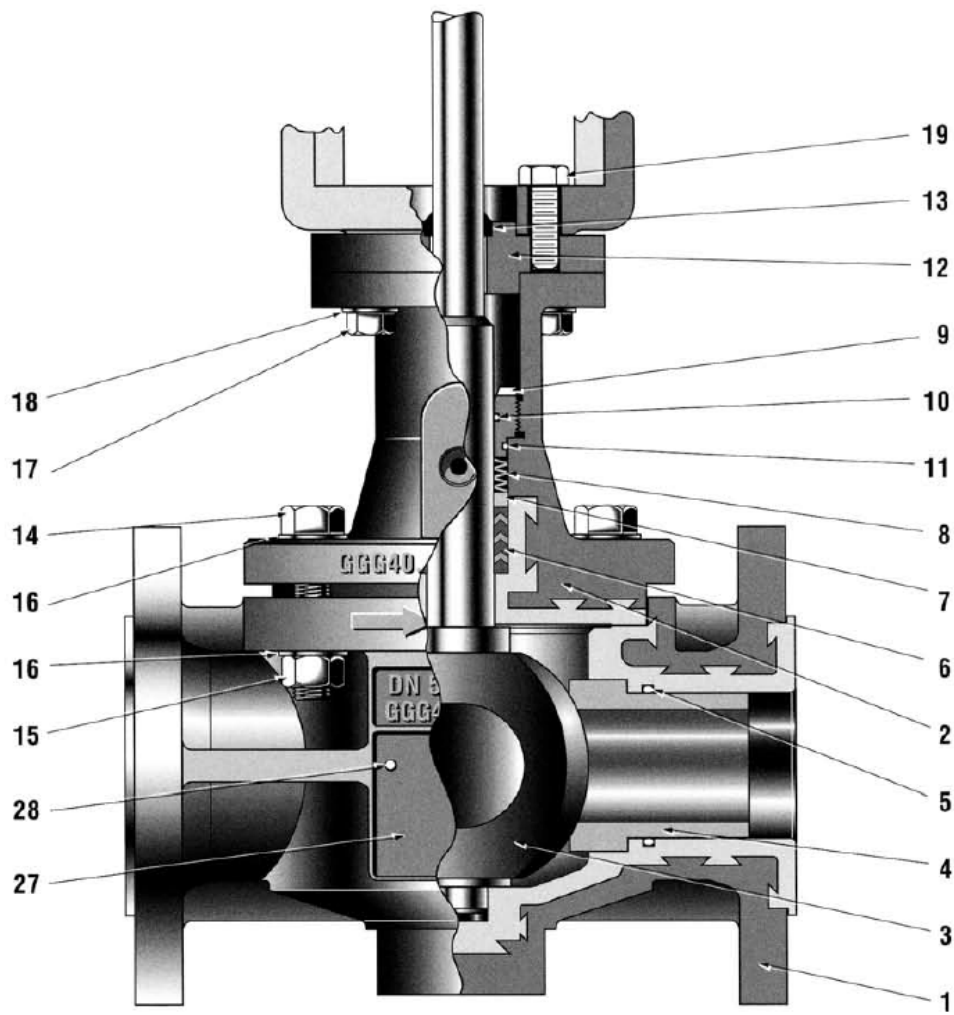

Figure 1
1. Remove the rear and front covers (118 & 121) of the actuator by releasing the screws (119). If necessary screw out the handwheel (141) after removing the Truarc ring (138) and washer (139).
3. Remove the indicator (154), clevis pin clip (122) and clevis pin (124), release the lever cap screw (137).
4. Depressurize the spring barrel. If the valve is not supplied with a positioner, remove screw (127) and shaft cover (126).
5. Remove the yoke screws (19) (Figure 1) and lift off the complete actuator unit and lever (135).
6.2 Valve Body Disassembly (Figures 1, 2, and 4)
7.1 Valve Body S/A Reassembly (Figures 1 to 4)
3. Insert the plug (3) into the bottom guiding bore of the body.
4. Place the bonnet (2) over the plug shaft onto the body and handtighten the bolting (14, 15, 16).
5. To insert the packing into bonnet (2), screw the guide tube into the body (Figure 2) up to the stop. Insert the complete packing (6) via the shaft end of the shaft into the guide tube until the packing has been fully inserted. It is essential that the packing is aligned in accordance with the detail drawing, (Figures 1 and 4).
7. Insert the seven disk springs (8) in accordance with Figures 1 and 4 and unscrew the guide tube (Figure 2).
- Secure the yoke to the valve body with screws (19) (Figure 1).